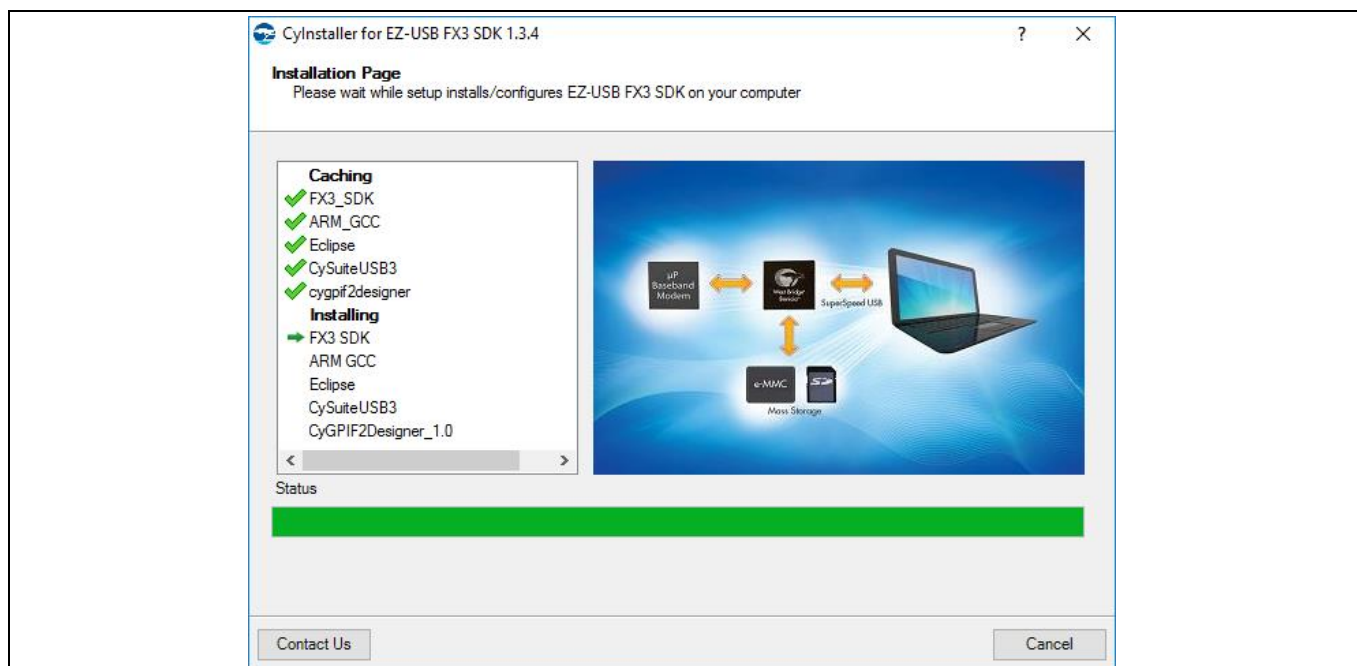

Figure 6 FX3 SDK Setup Installation
7. The installation screen will display as in **Figure 6**. The panel on the left of the installation window shows the tools, software, and related files installed with the SDK.